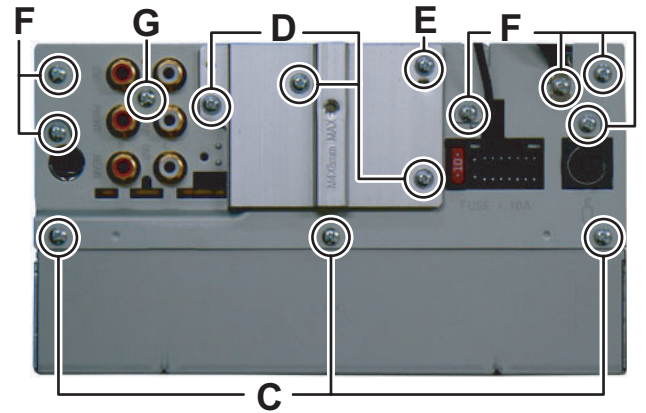

Fig.3
- (2) Remove the 3 screws **C** attaching the Bottom chassis. (See Fig.3)
- (3) Remove the 3 screws **D** and 1 screw **E** attaching the Heat sink. (See Fig.3)
- (4) Remove the 6 screws **F** and 1 screw **G** attaching the Rear bracket. (See Fig.3)